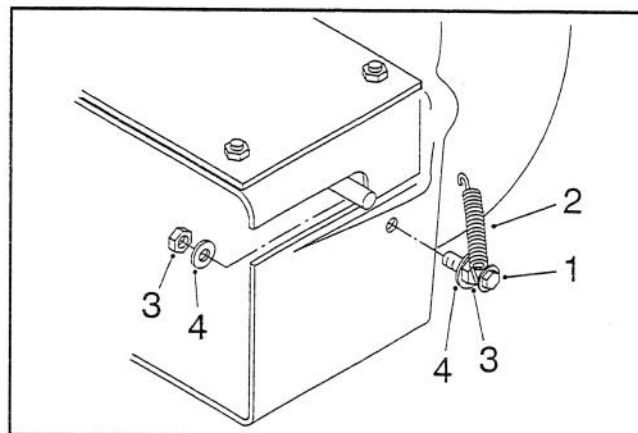

Figure 5
4. Insert a #10 x $3/4$ " screw through the extended loop at the end of the tension spring (Fig. 5). Screw one #10 nut to within $1/8$ inch from the screw head, allowing the spring to pivot freely (Fig. 5).
5. Slide one $7/32$ " flat washer onto the spring and screw assembly (Fig. 5). Insert the screw through the hole in the blower housing from the outside and secure in place with another flat washer and #10 nut (Fig. 5). Tighten the nut.